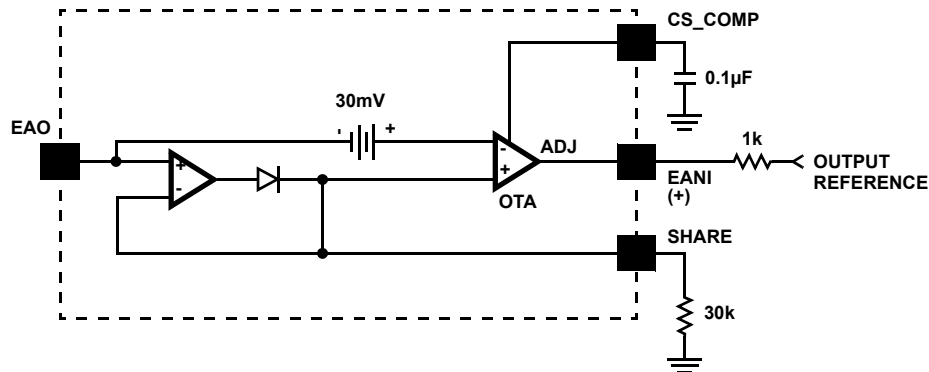

FIGURE 13. SIMPLIFIED CURRENT SHARE CIRCUIT
- The unit with the highest reference is the master. Other units, as slaves, adjust their references via a source resistor to match the master reference sharing the load current. The source resistor is typically 1k $\Omega$  connecting the EANI pin and the OUTPUT REFERENCE (external reference or BGREF), as shown in Figure 13. The share bus represents a 30k $\Omega$  resistive load per unit, up to 10 units.